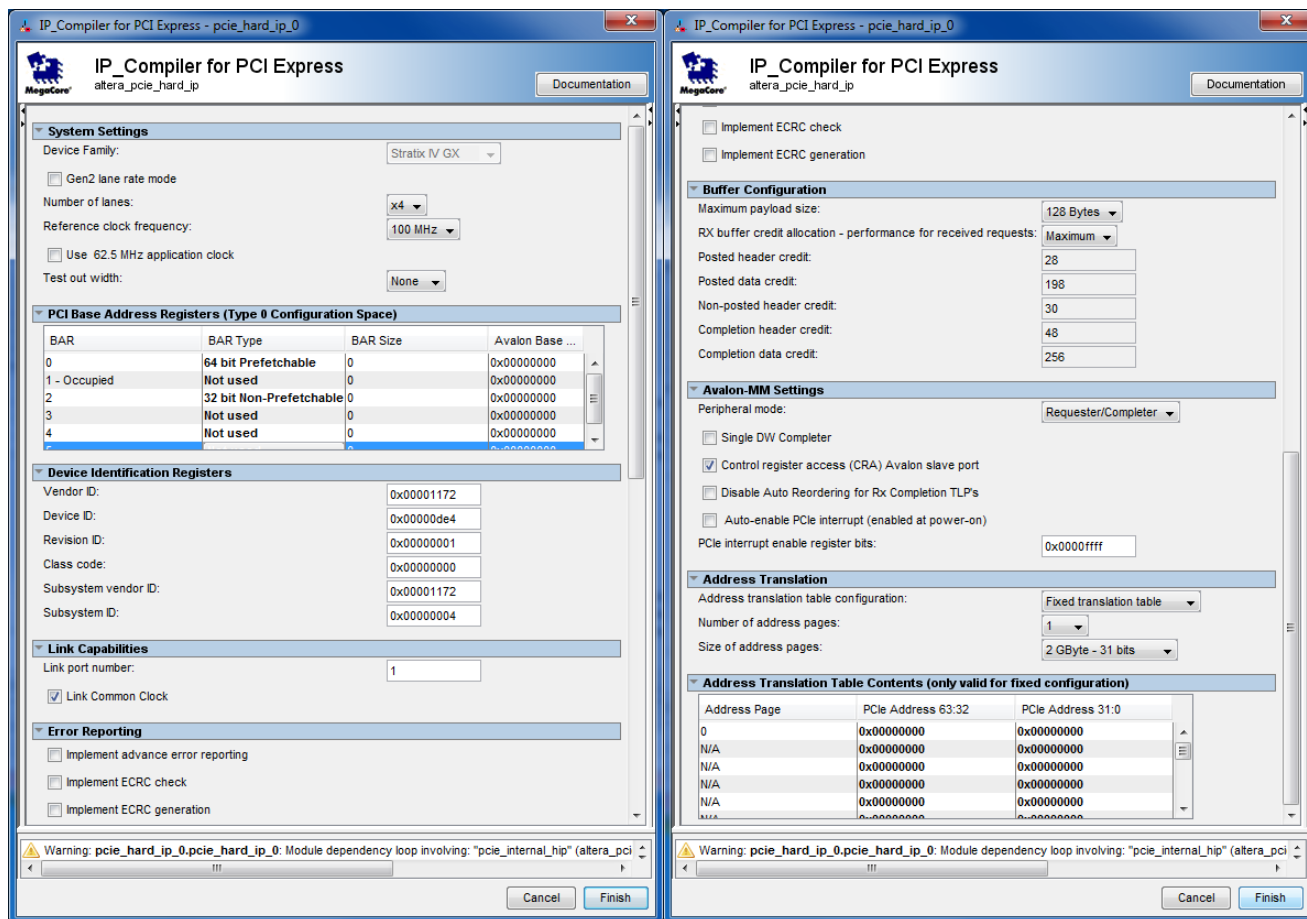

Figure 4. Settings for PCI Express IP Core.
- Click **Finish** to add the PCI Express IP Core *pcie\_hard\_ip\_0* to the Qsys system. Figure 4 shows screenshots of the settings.